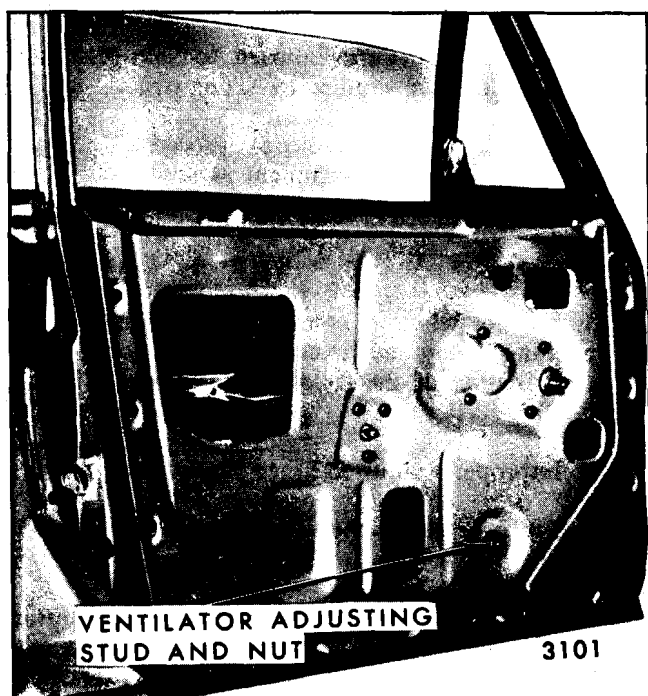

Fig. 6-67-Front Door Window Removal and Adjustment - "A and X" Closed Styles
1. To adjust lower portion of ventilator division channel for proper alignment with door window assembly, lower door window and loosen ventilator adjusting stud nut (Figure 6-67). Turn adjusting stud in or out or position lower end of channel fore or aft as required; then, tighten adjusting stud nut.